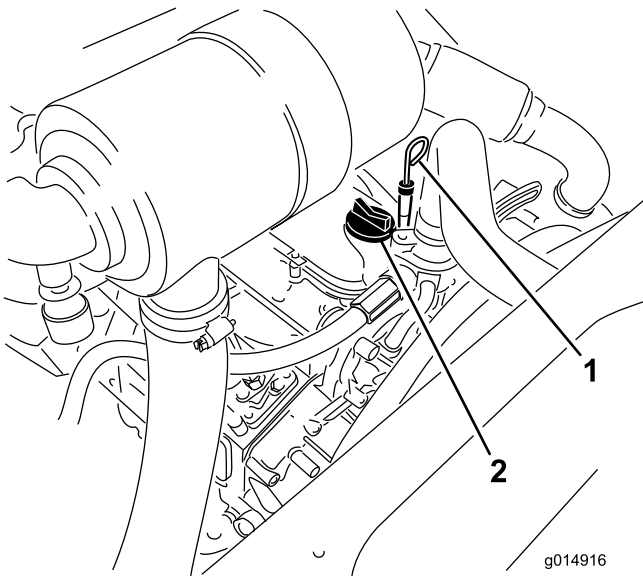

Figure 35
3. Remove the dipstick, wipe it clean, and install it (Figure 35).
5. If the oil level is below the Full mark, remove the fill cap (Figure 35) and add oil until level reaches the Full mark on dipstick.